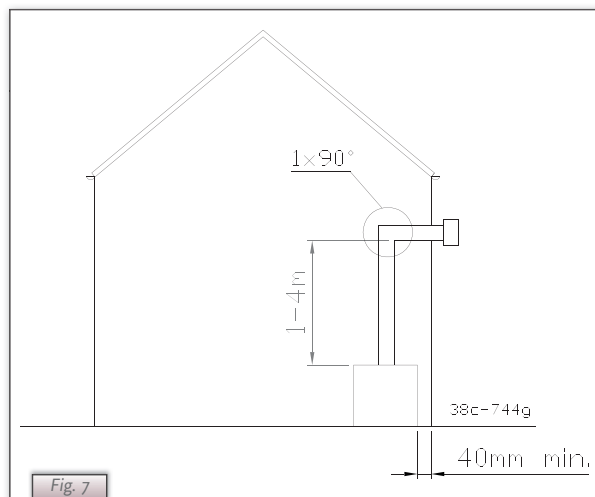

Fig. 7
- 2) minimum 1 meter and maximum 4 meters of vertical pipe length combined with a 90° bend and a wall duct (i.e., no horizontal part, see Fig. 7).